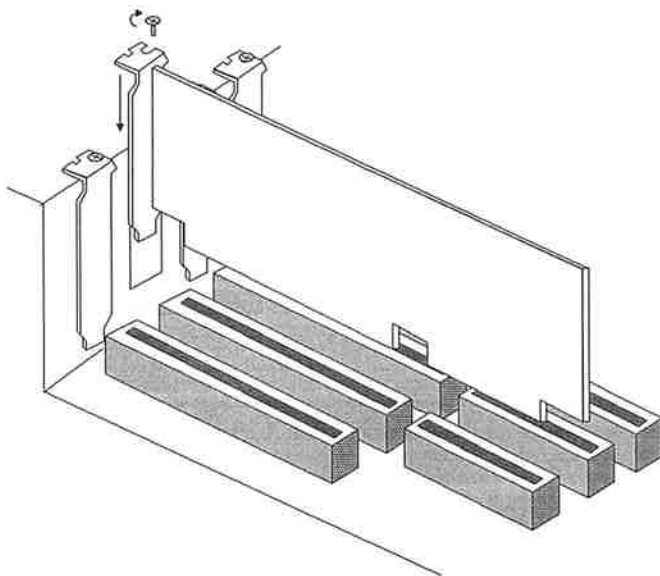

Fig 5.2
- Screw back in the bracket (see Fig 5.2) by using the screw kept from the previous step.